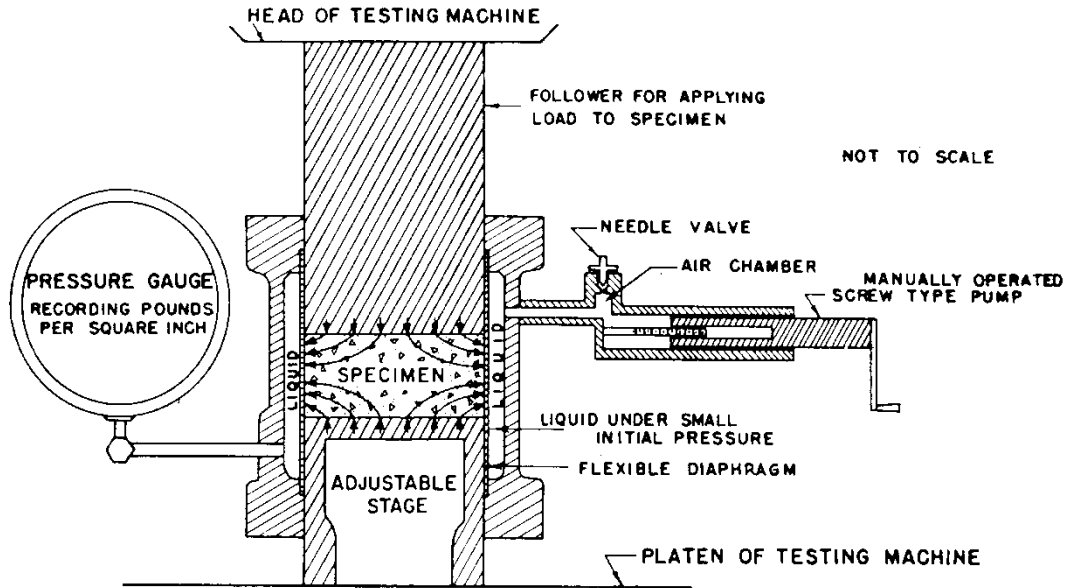

Figure 1: Diagrammatic Sketch of the Hveem Stabilometer
- 2.1 *Stabilometer* - Hveem stabilometer (Figure 1) is a triaxial testing device consisting essentially of a rubber sleeve within a metal cylinder containing a liquid which registers the horizontal pressure developed by a compacted test specimen as a vertical load is applied. Pressure gauges must have increments to at least the nearest 1 psi.